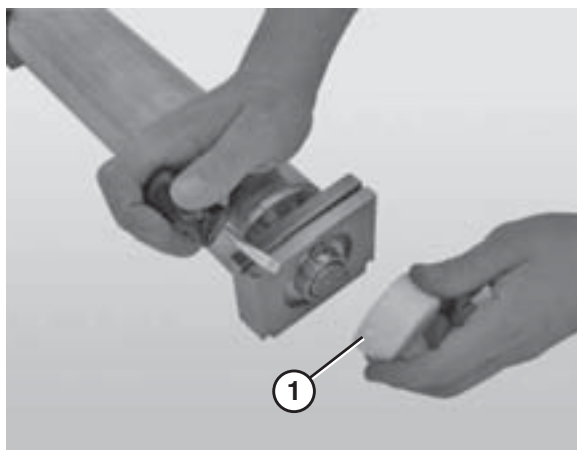

Figure 99
2. Remove the bearing cover (Figure 99, item 1).